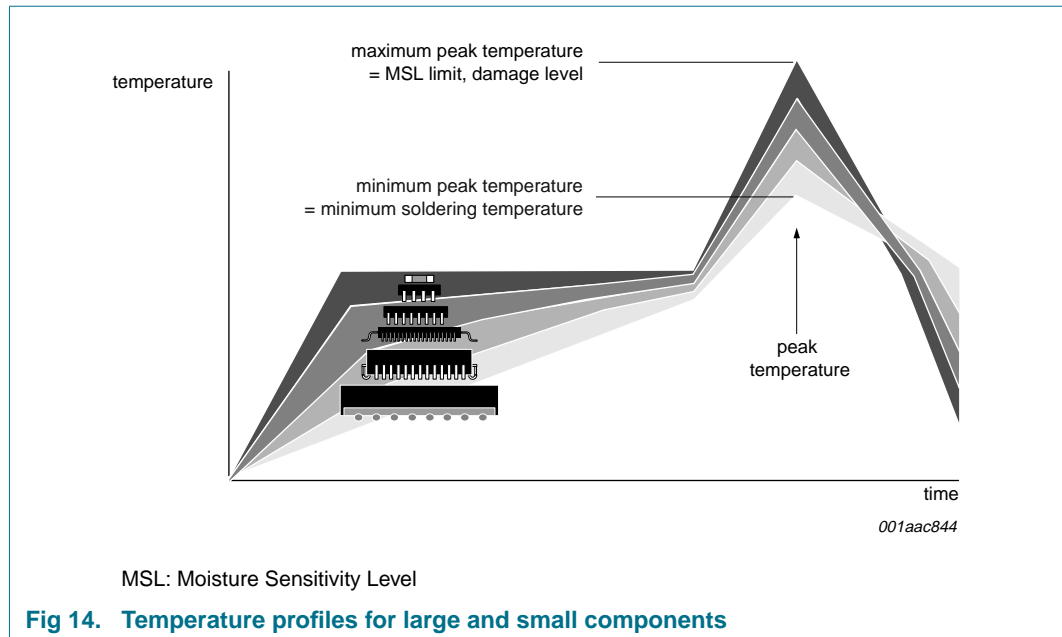

Fig 14. Temperature profiles for large and small components
- Lead-free versus SnPb soldering; note that a lead-free reflow process usually leads to higher minimum peak temperatures (see Figure 14) than a SnPb process, thus reducing the process window
Studies have shown that small packages reach higher temperatures during reflow soldering, see Figure 14.